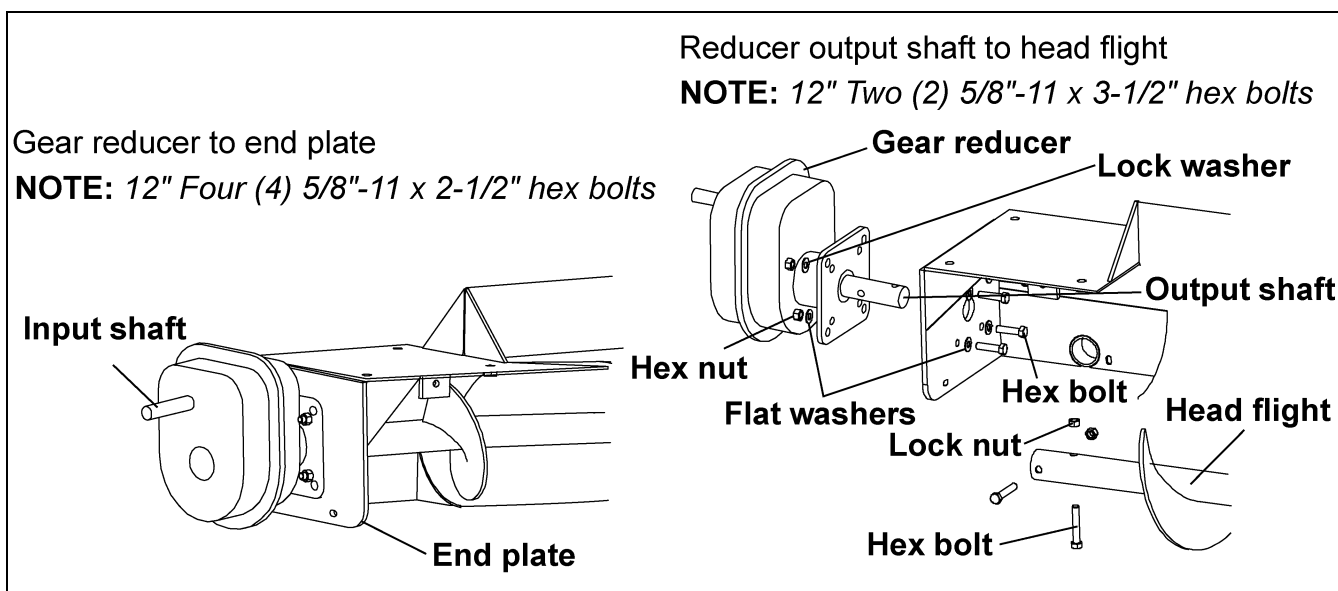

Figure 5G
- A. Slide the output shaft of the reducer through the end plate of the head section and into the end of the head flight. Secure the reducer output shaft to the head flight with hex bolts and lock nuts. (See Figure 5G on Page 27.)
- B. Bolt the reducer to the end plate of the head section using hex bolts, flat washers and lock washers, supplied with the reducer. (See Figure 5G on Page 27.)